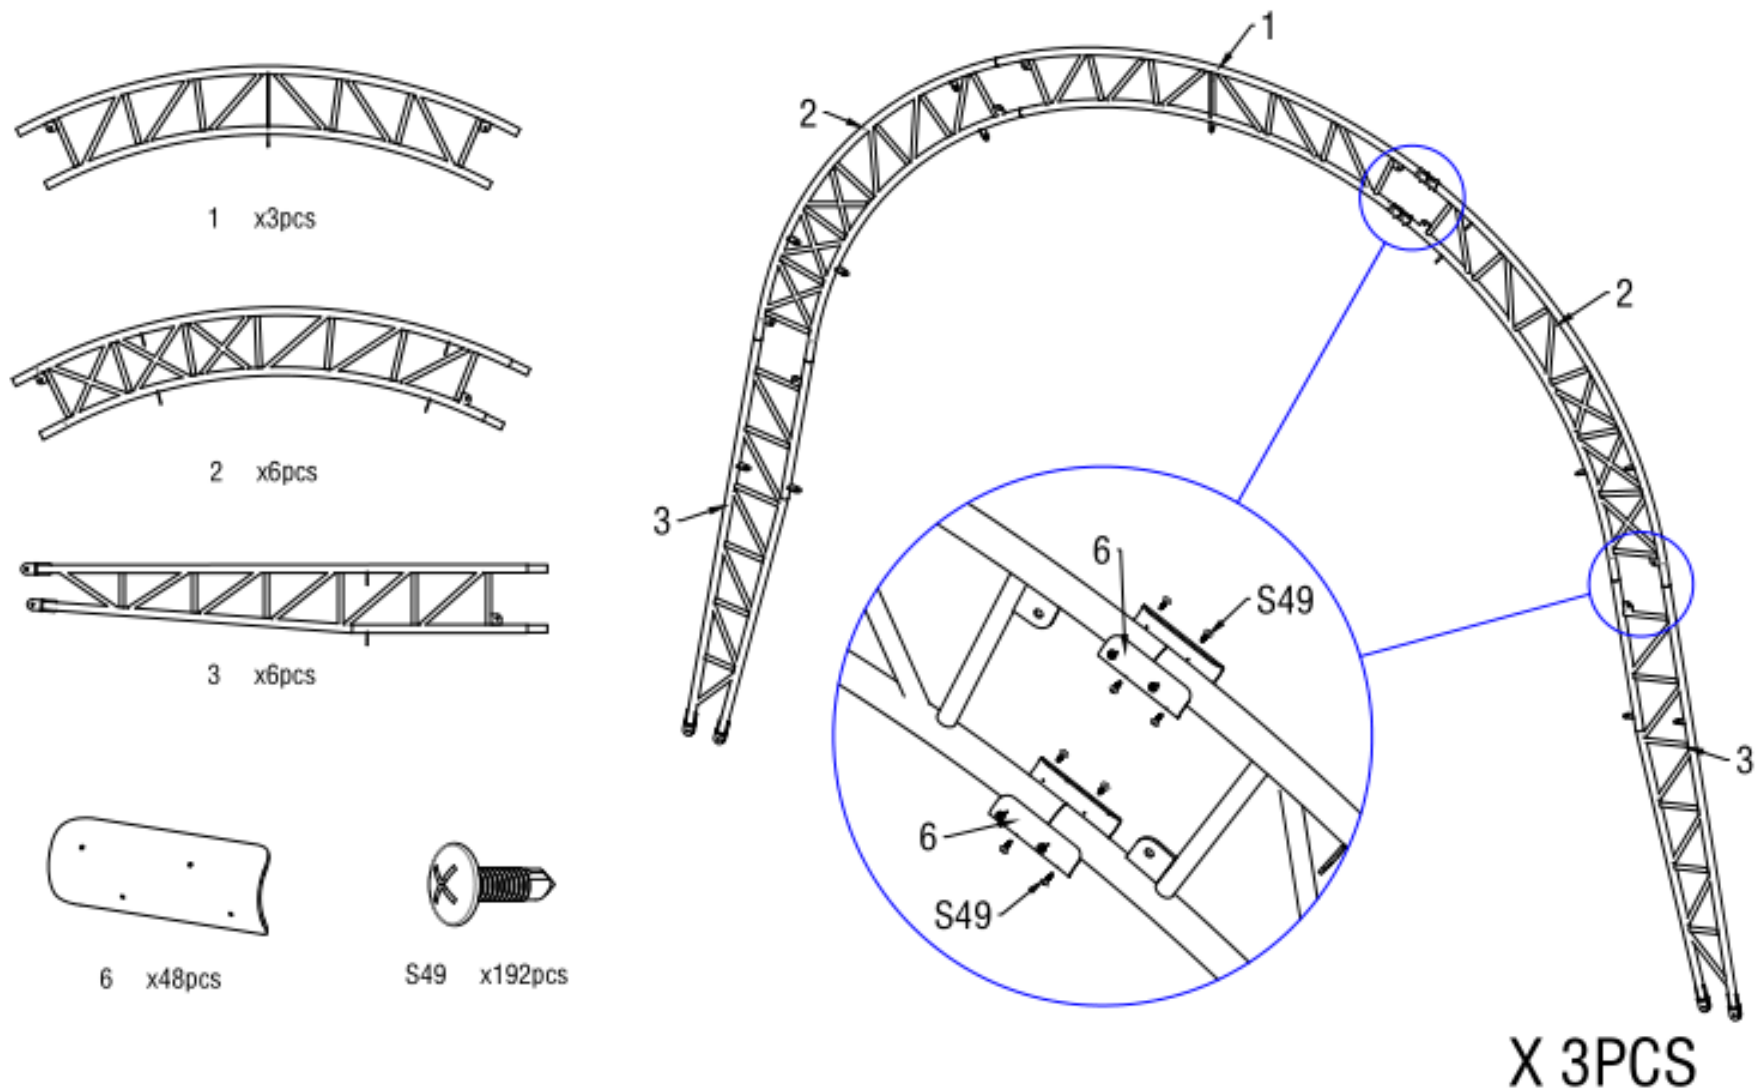

Figure 4
2. As Figure 4 shown to find one Top roof tube (No.1), two Roof upper curving tube (No. 2), two Lower curving tube (3) and assemble every group arch with Screw M4x16 (No.S49). **DO NOT install the screw on the top of the truss where the fabric will rest.**
**Note:** Top Roof tube, Roof curving tube and Lower curving tube (No.1A,2A,3&3A) which are welded with steel plates for front and back doors are different from the middle arch.(Figure 4)